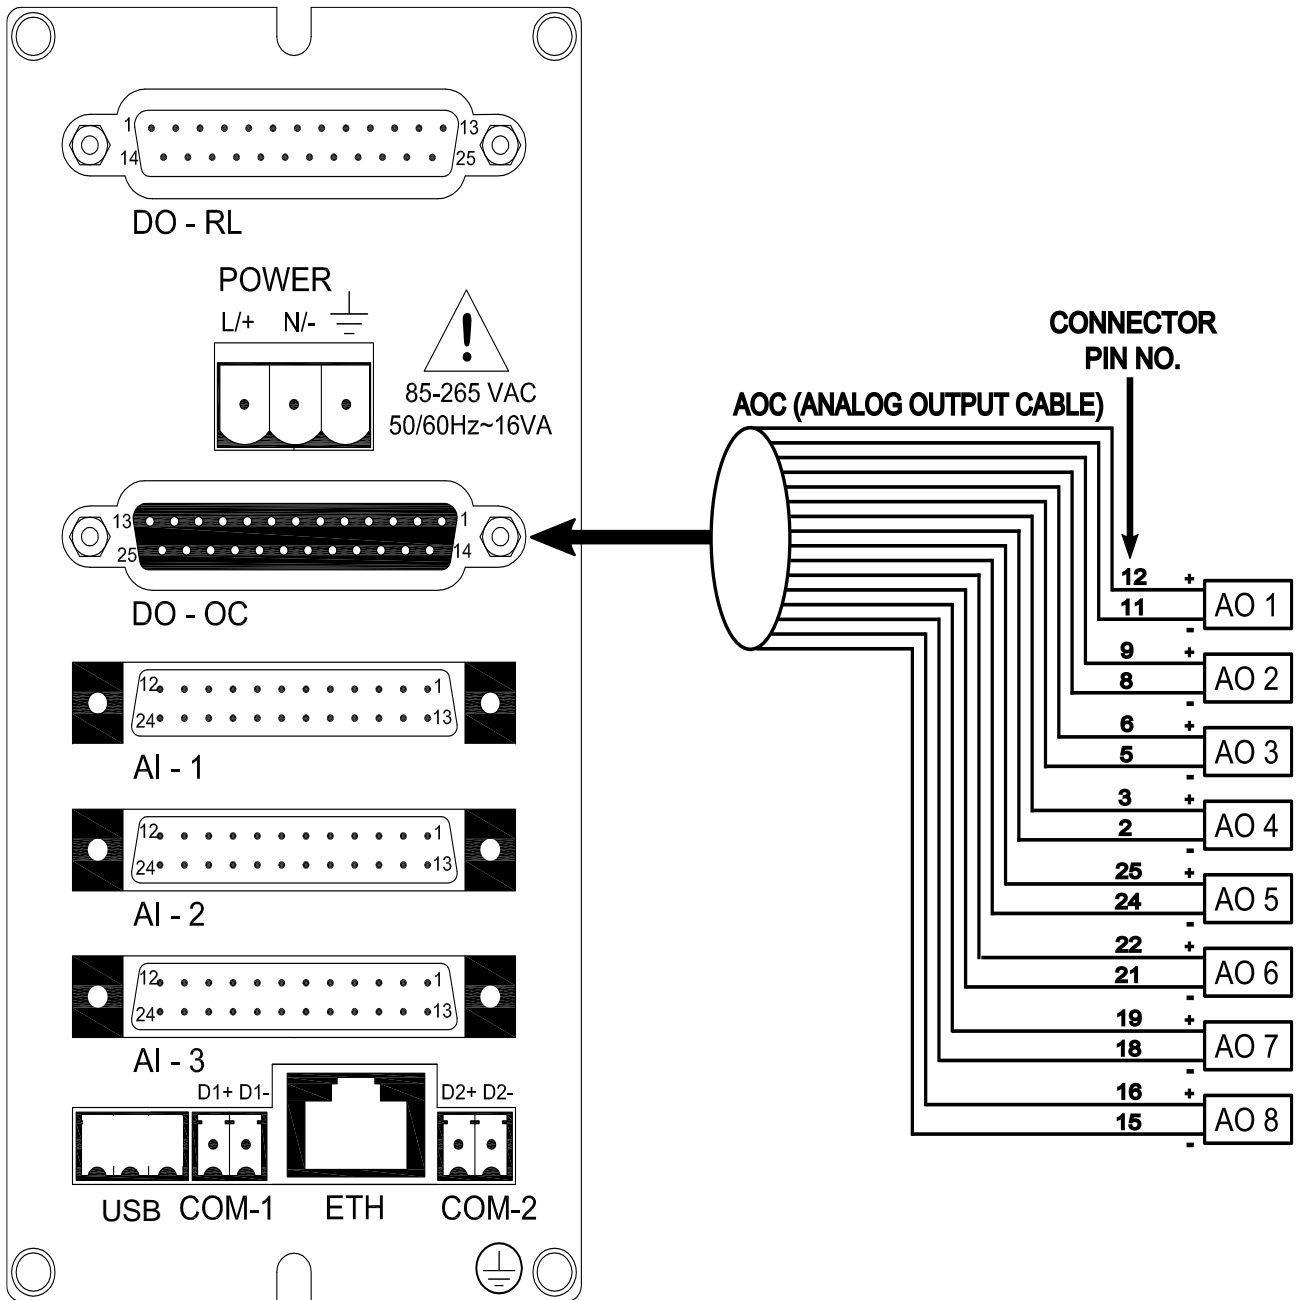

Figure 11 Analog Output Cable Connection
- 1) Connect Digital Output- Relay cable and Open Collector / Analog Output cable , Analog Input cable and Communication cable to 85XX+ as shown in Figure 6, Figure 7 ,Figure 9 ,Figure 11,